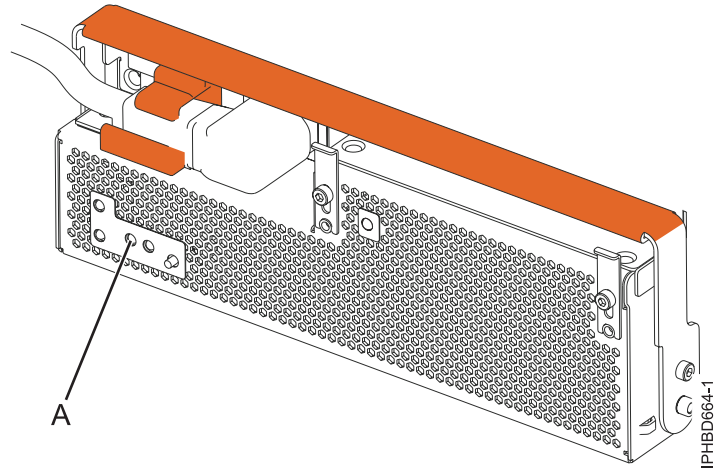

Figure 34. FRU fault and identify LED
4. At the front of the expansion unit, identify the power supply that must be replaced. To identify the power supply, observe the state of the amber field-replaceable unit (FRU) fault and identify light-emitting diode (LED) (A) as shown in Figure 34 on page 59. A lit (flashing or on solid) LED indicates the failing power supply.